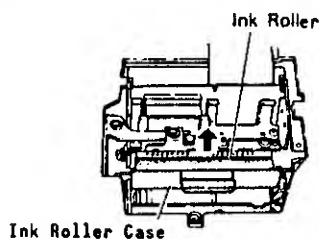

Fig. 14
3. Pull the Ink Roller Case upwards with your right fingertips. (Fig. 14)